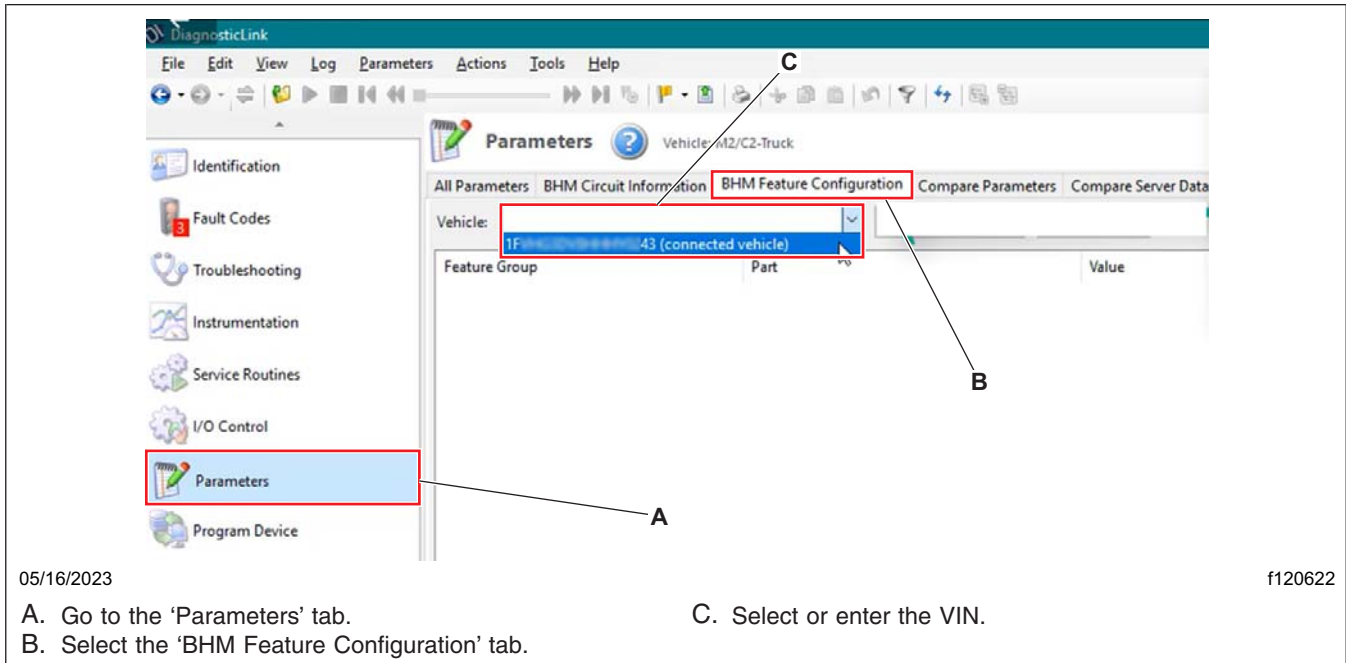

Fig. 3, Connecting to the Vehicle by Selecting/Entering the VIN
- Go to the 'BHM Feature Configuration' tab, and from the dropdown next to the 'Vehicle' field, select the vehicle identification number (VIN) of the connected vehicle. If the VIN of the connected vehicle is not visible in the dropdown menu, manually enter the VIN in the designated field. See Fig. 3.